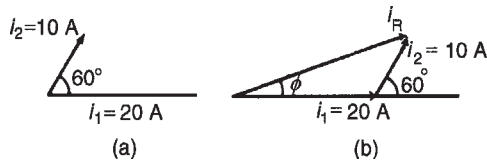

Figure 16.12
- (a) The relative positions of i_1 and i_2 at time $t=0$ are shown as phasors in Fig. 16.12(a). The phasor diagram in Fig. 16.12(b) shows the resultant i_R , and i_R is measured as 26 A and angle ϕ as 19° or 0.33 rads leading i_1
- (b) From Fig. 16.12(b), by the cosine rule: